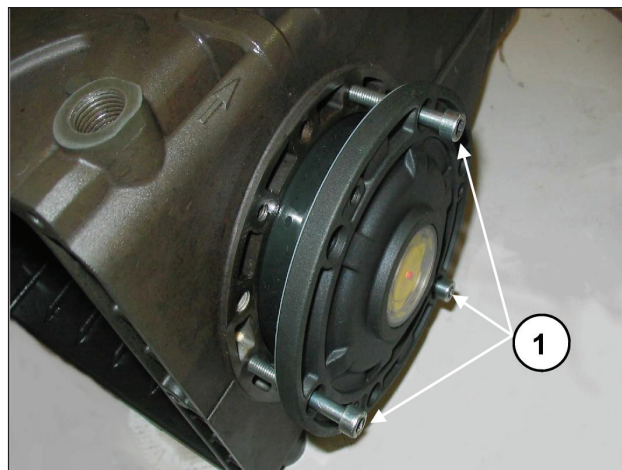

Fig. 8
To facilitate filling of the first section and relative fitting of the covers on the casing, it is recommended to use 3 partially-threaded M6 x 40 screws, (Fig. 8, pos. ①) to then complete the operation with the screws supplied (M6x16).
To move the two lateral covers near the guard, it is possible to use No. 3 screws M6x40 for a first orientation step, as previously indicated (Fig. 8), and the screws required for the final fixing.